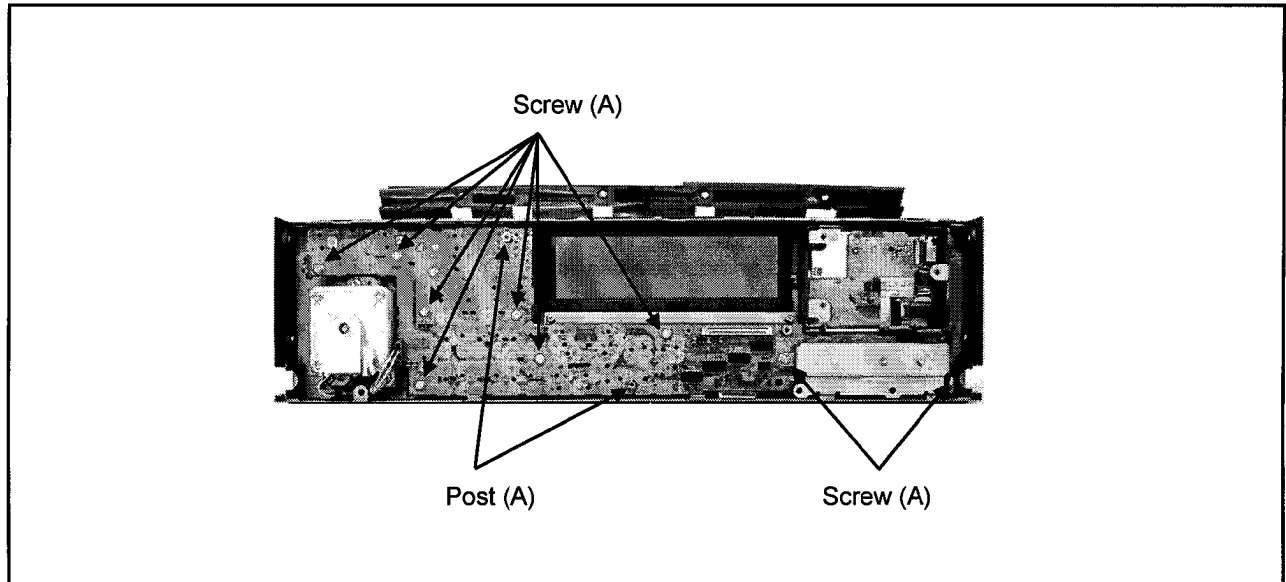

Figure 6-1
3. Unscrew the 9 screws (A) and 2 post (A) as shown in figure 6-1.